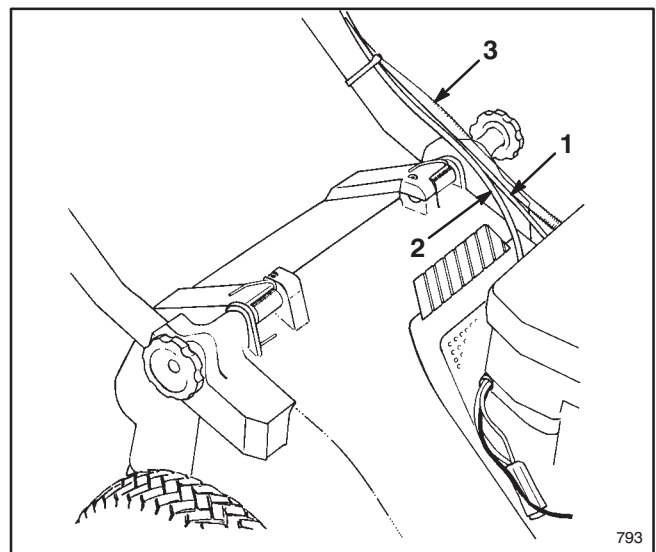

Figure 2
3. Slide handle ends into holes in mounting brackets until handle ends are completely seated in brackets (Fig. 1). Make sure throttle cable, electric start cable (electric start model) and traction cable rest on top of left mounting bracket (Fig. 2).
4. Rotate handle and brackets rearward until brackets fit securely into housing pockets (Fig. 2).